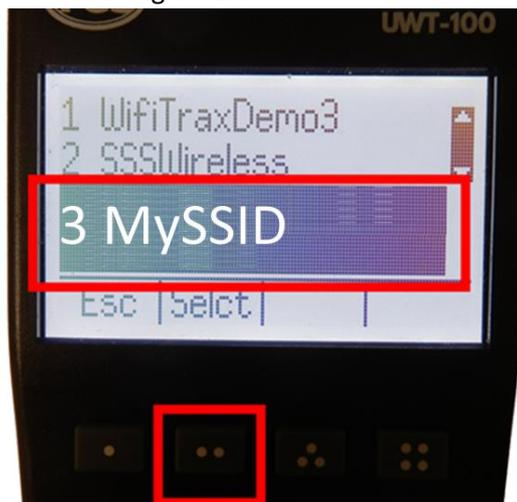

Figure 19 Select the Home Wi-Fi Network
(4) In the Found Networks list, select your home network as Figure 19. Select that Network, using the Selct [.] key.